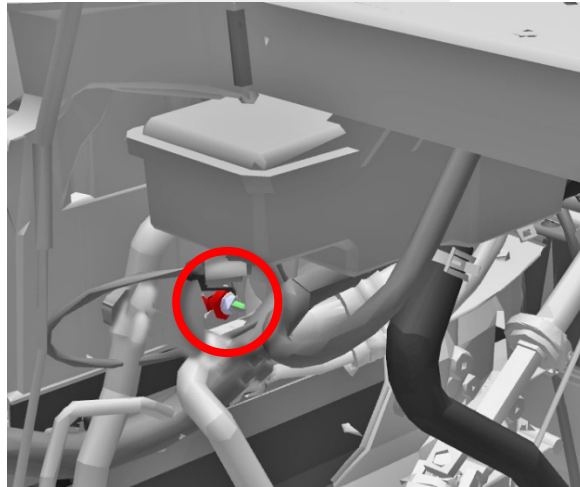

Figure 4
6. Release the lower fastener that secures the A/C line (torque 6.5 Nm) (Figure 4).